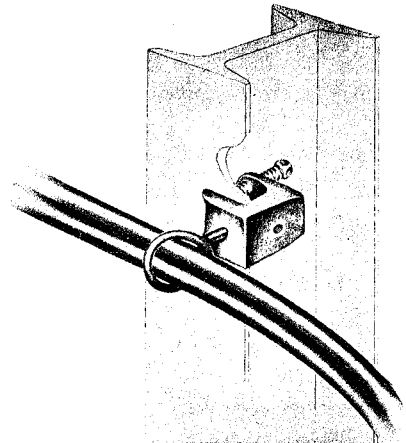

Fig. 3 — B Insulator Support
**3.04** *B Insulator Support* (Fig. 3)